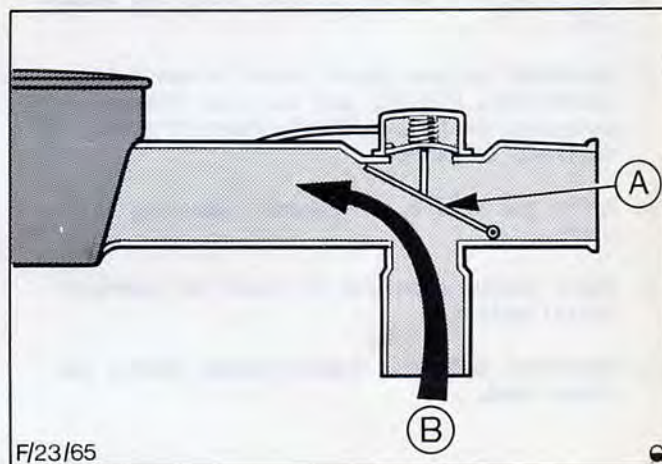

Fig.34. Air cleaner spout.
3. Start engine and note operation of air control flap. At idle flap should fully open and hold open to allow warm air from exhaust manifold to enter air cleaner. Fig.34.